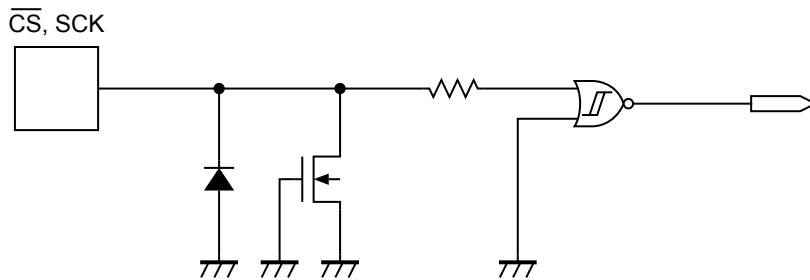

Figure 20  $\overline{\text{CS}}$ , SCK Pin
**Figure 20** and **21** show the equivalent circuits of input pins in the S-25C256A. A pull-up and pull-down elements are not included in each input pin, pay attention not to set it in the floating state when you design.